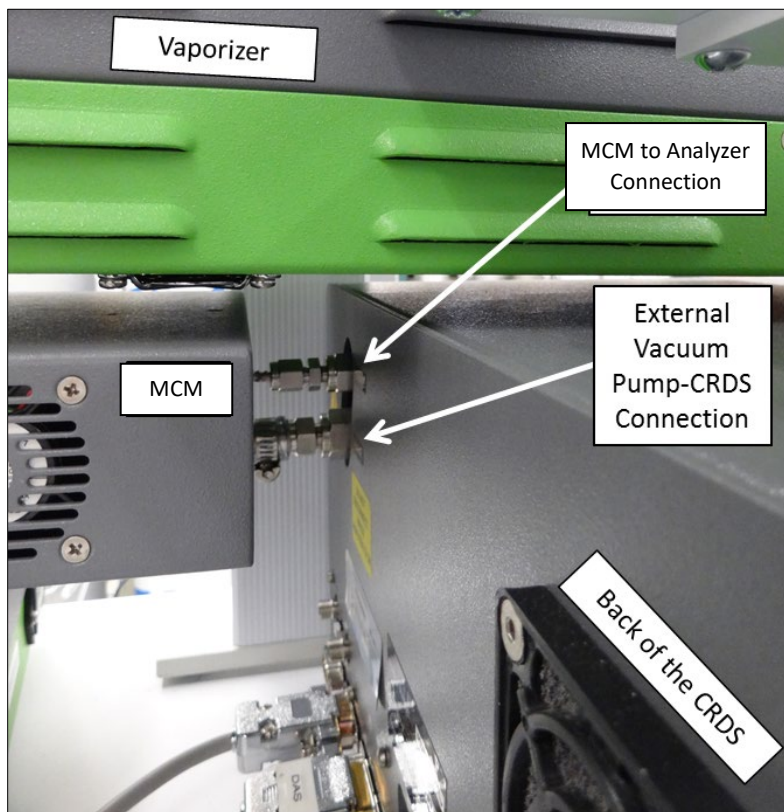
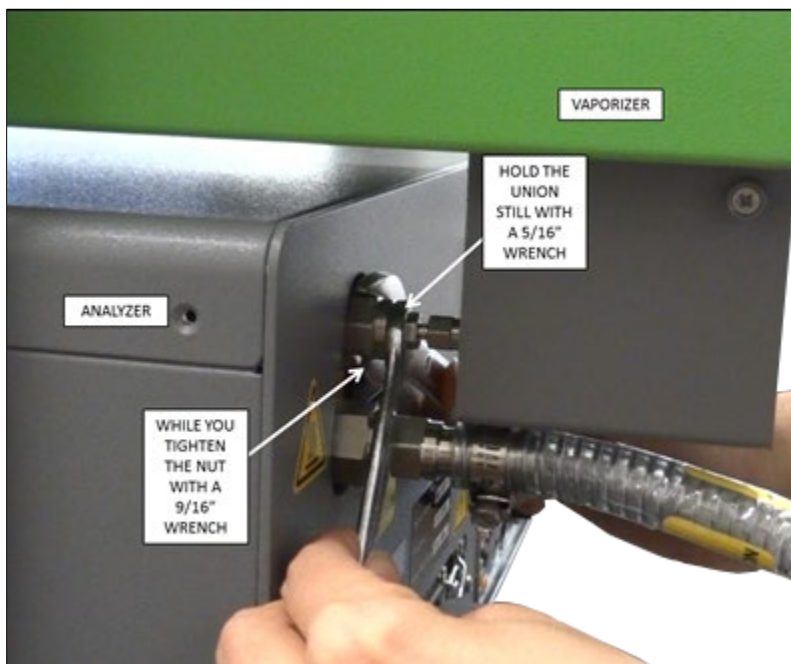
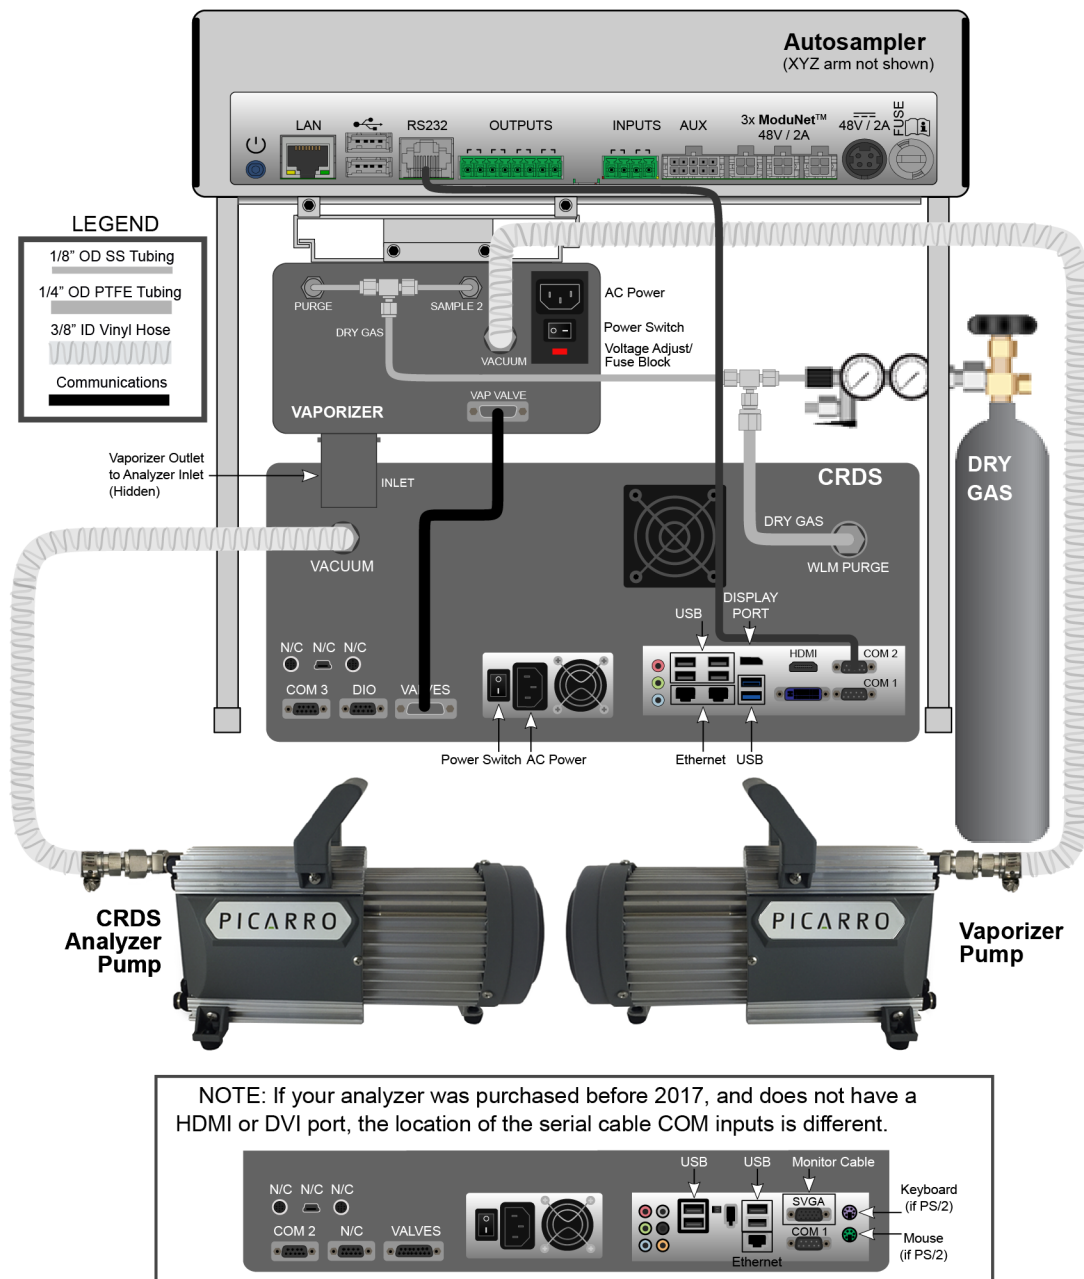
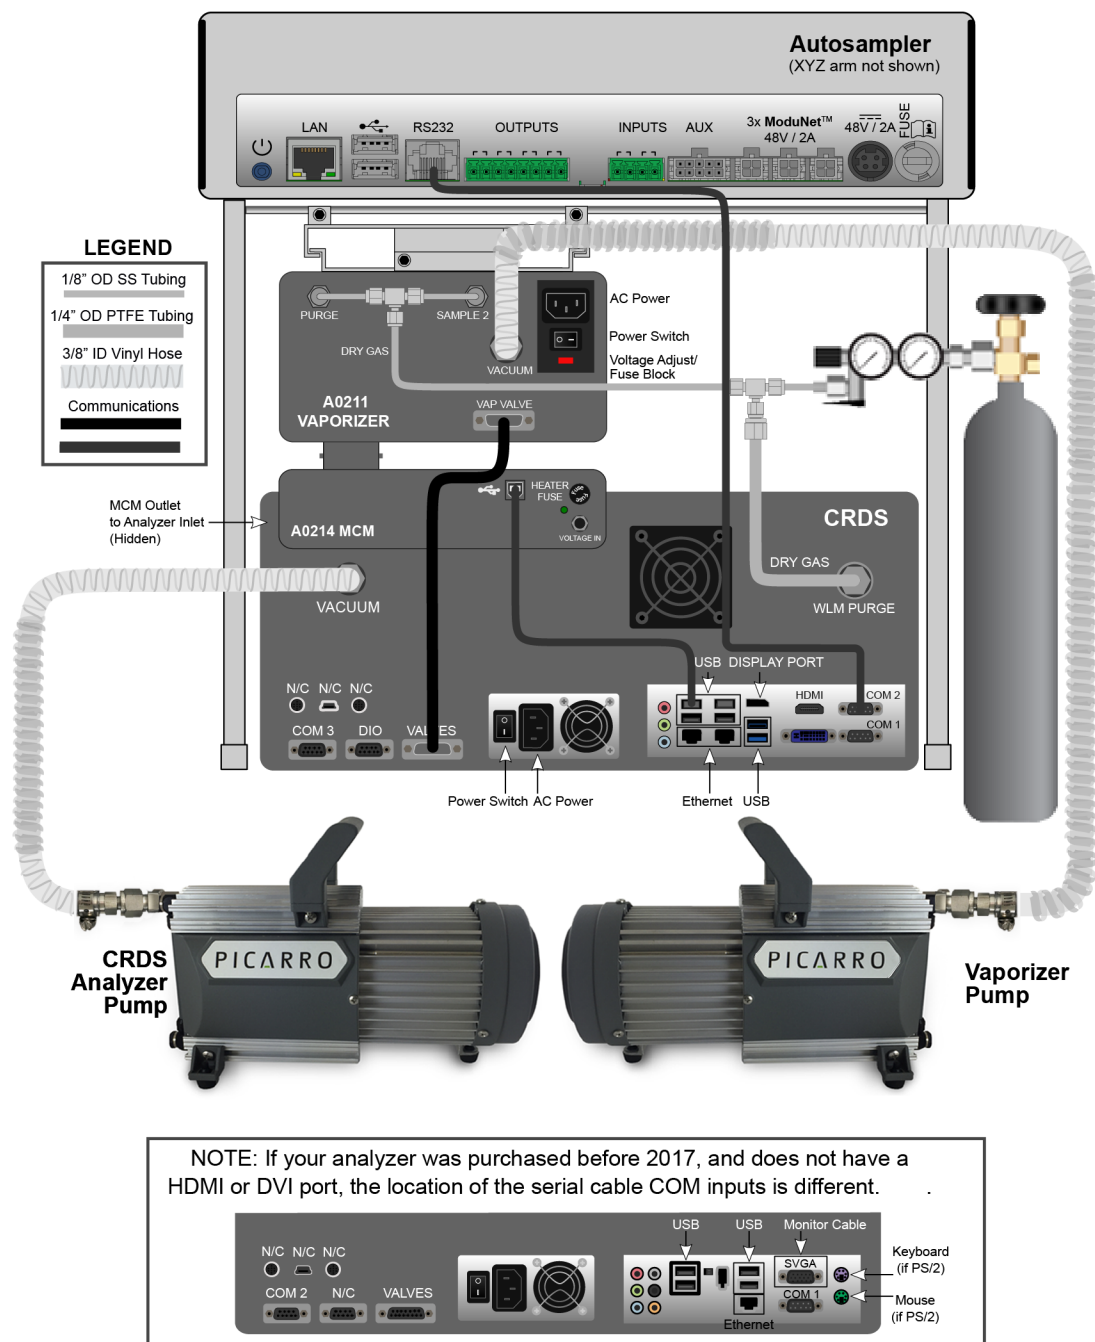

Figure 20: A0214 MCM Vaporizer to Analyzer Connection
Figure 21: Tightening Vaporizer to Analyzer Connection
Figure 22: Connections: A0340 and A0211 Vaporizer (without A0214 MCM)
Figure 23: Connections: A0340 and A0211 Vaporizer with A0214 MCM
- A0211 Vaporizer (Figure 20, Figure 22).
- A0211 with A0214 Micro Combustion Module (MCM) comes mounted to the vaporizer. (Figure 21, Figure 23).
The MCM comes already mounted to the vaporizer in this case (Figure 20, Figure 23).
5. Hand-tighten the gas connection between the vaporizer and the analyzer (or when the A0214 MCM is attached) as shown in Figure 20.
6. Tighten the connection using the 5/16" and the 9/16" wrenches (Figure 21).
- A0211 Vaporizer (Figure 22)
- A0211 Vaporizer and A0214 Micro Combustion Module (MCM) – (Figure 23).
1. Connect the 1/8" Swagelok connection port to a source of dry gas as shown in Figure 22 (see the *L2140-i and L2130-i Isotopic Water Analyzer and Peripherals Installation and Operation Manual*, P/N 40035 for more detailed information).
3. Make the cable connections between the analyzer, vaporizer, and autosampler, as shown in Figure 22 or Figure 23, for the A0214 MCM application. Note that the WLM Purge is an optional feature and is not required. For more information, see the L21x0-i User Manual.